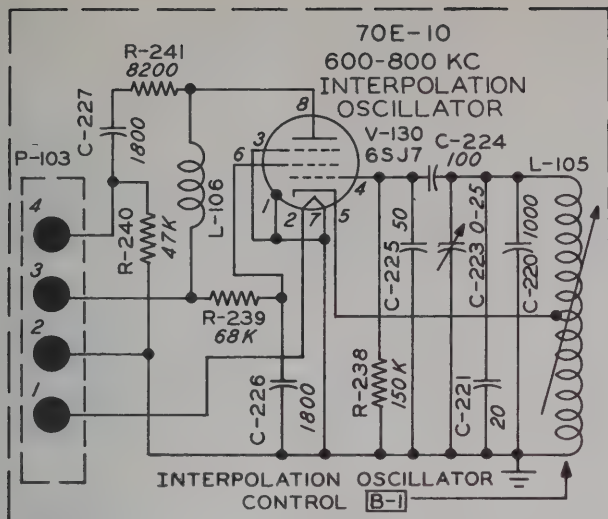

Figure 97. R-F Oscillator O-91/FRT-5, Interpolation Oscillator, Schematic Diagram.
1. *Interpolation oscillator (fig. 97).* The interpolation oscillator assembly is a precision device which supplies an output frequency that is extremely stable under widely varying conditions of temperature and humidity. The circuit used is electron-coupled, employing a 6SJ7 tube, V-130, and covering a frequency range of 600 to 800 kc. The output frequency of the oscillator is determined by the position of the tuning slug within the grid inductor L-105 with fixed ca-